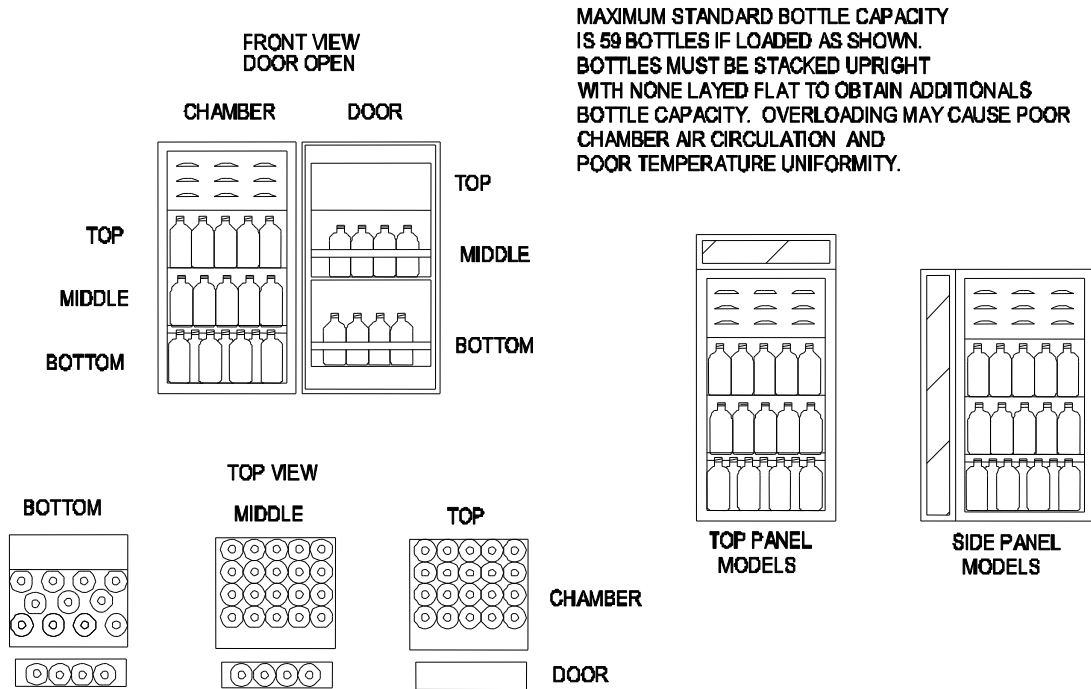

Figure 2
4.8 Load the chamber with sample bottles. See **Figure 2** for bottle placement.